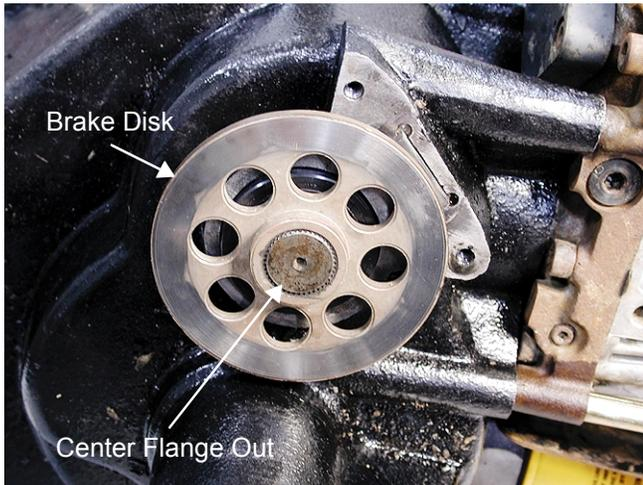

Figure 6
- Remove the brake disk from the output shaft. See Figure 6.